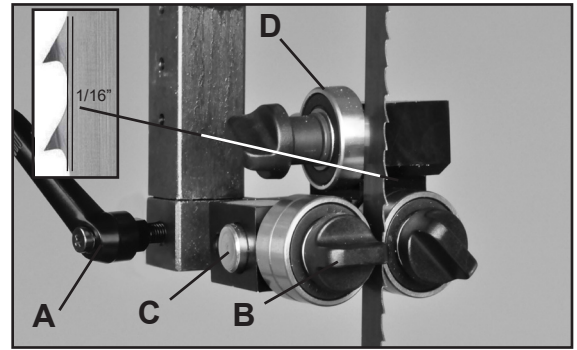

Figure 20
**Upper Guides:** To adjust the upper blade guides, first position the roller guides relative to the blade by loosening the Lock Handle (A-Fig.20) and sliding the guide assembly until the side roller guides are approximately 1/16" behind the gullet of the blade, then re-tighten the Lock Handle (A-Fig.20).
Next, set the roller guides to within 1/32" of the blade by releasing the lock Lock Handles (B-Fig.20) and push the ends of the Guide Shafts (C-Fig.20) towards the blade. Do not set the guides too close, as this will adversely affect the life of the blade. When the correct adjustment is reached, lock the guides in position by tightening the Lock Handles (B-Fig.20). Finally, follow the same steps above to position the rear thrust guide (D-Fig.20).